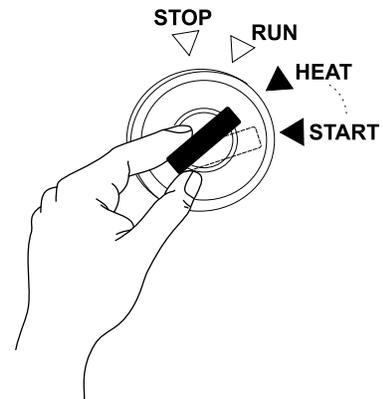

Figure 18. Starter Switch (HEAT/RUN)
3. Turn the ignition key to the **HEAT** position (Figure 18). When the preheat light goes off, turn the key to the **START** position to start the engine. As soon as the engine starts, release the key. The key will automatically return to the **RUN** position.